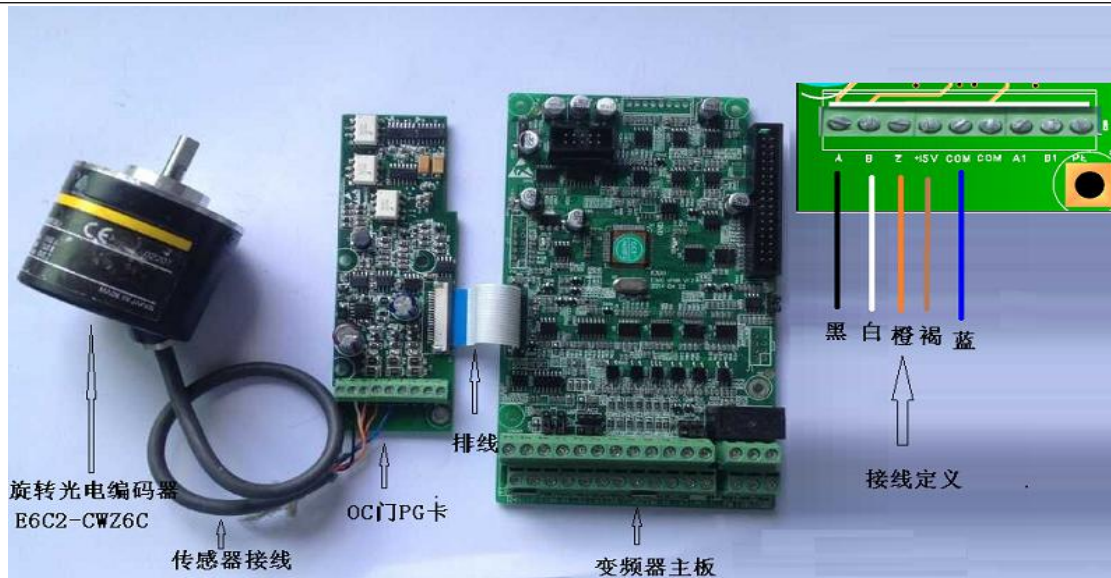

Figure 3: PG-OC test
- 2) Connect the PG-OC card to the encoder. As shown in Figure 3 below: